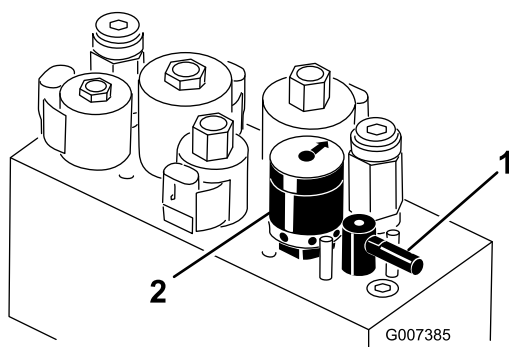

Figure 32
4. To set the reel speed, rotate the knob (Figure 32) until the indicator arrows are in line with the number designating desired setting.